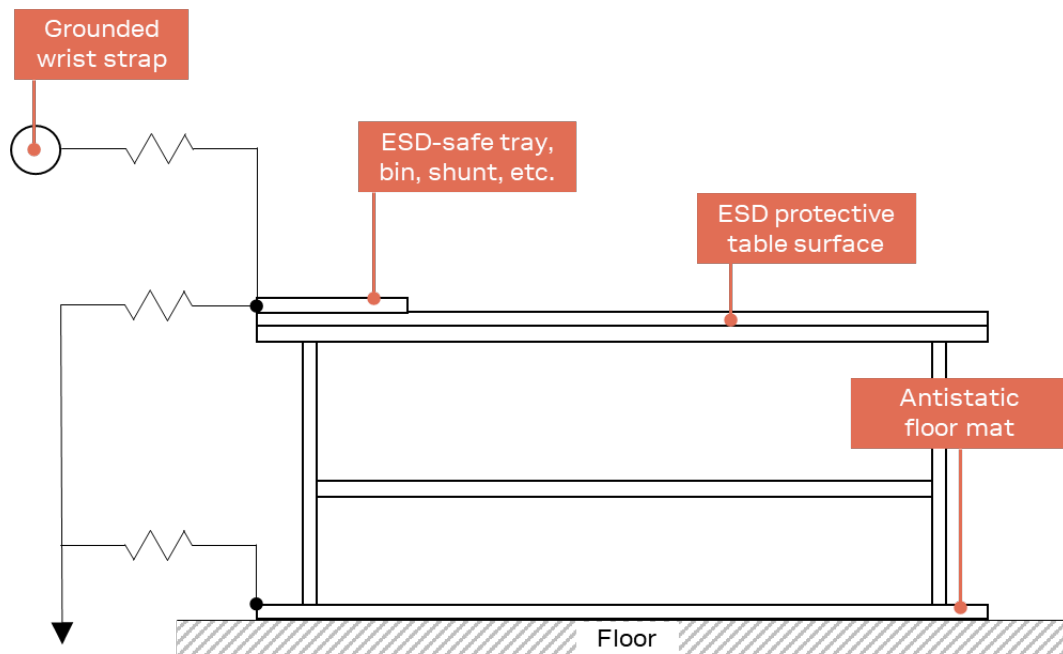

Figure 33: Standard workstation setup for safe handling of ESD-sensitive devices
- Open the package within an ESD-protected area (EPA), as in Figure 33.